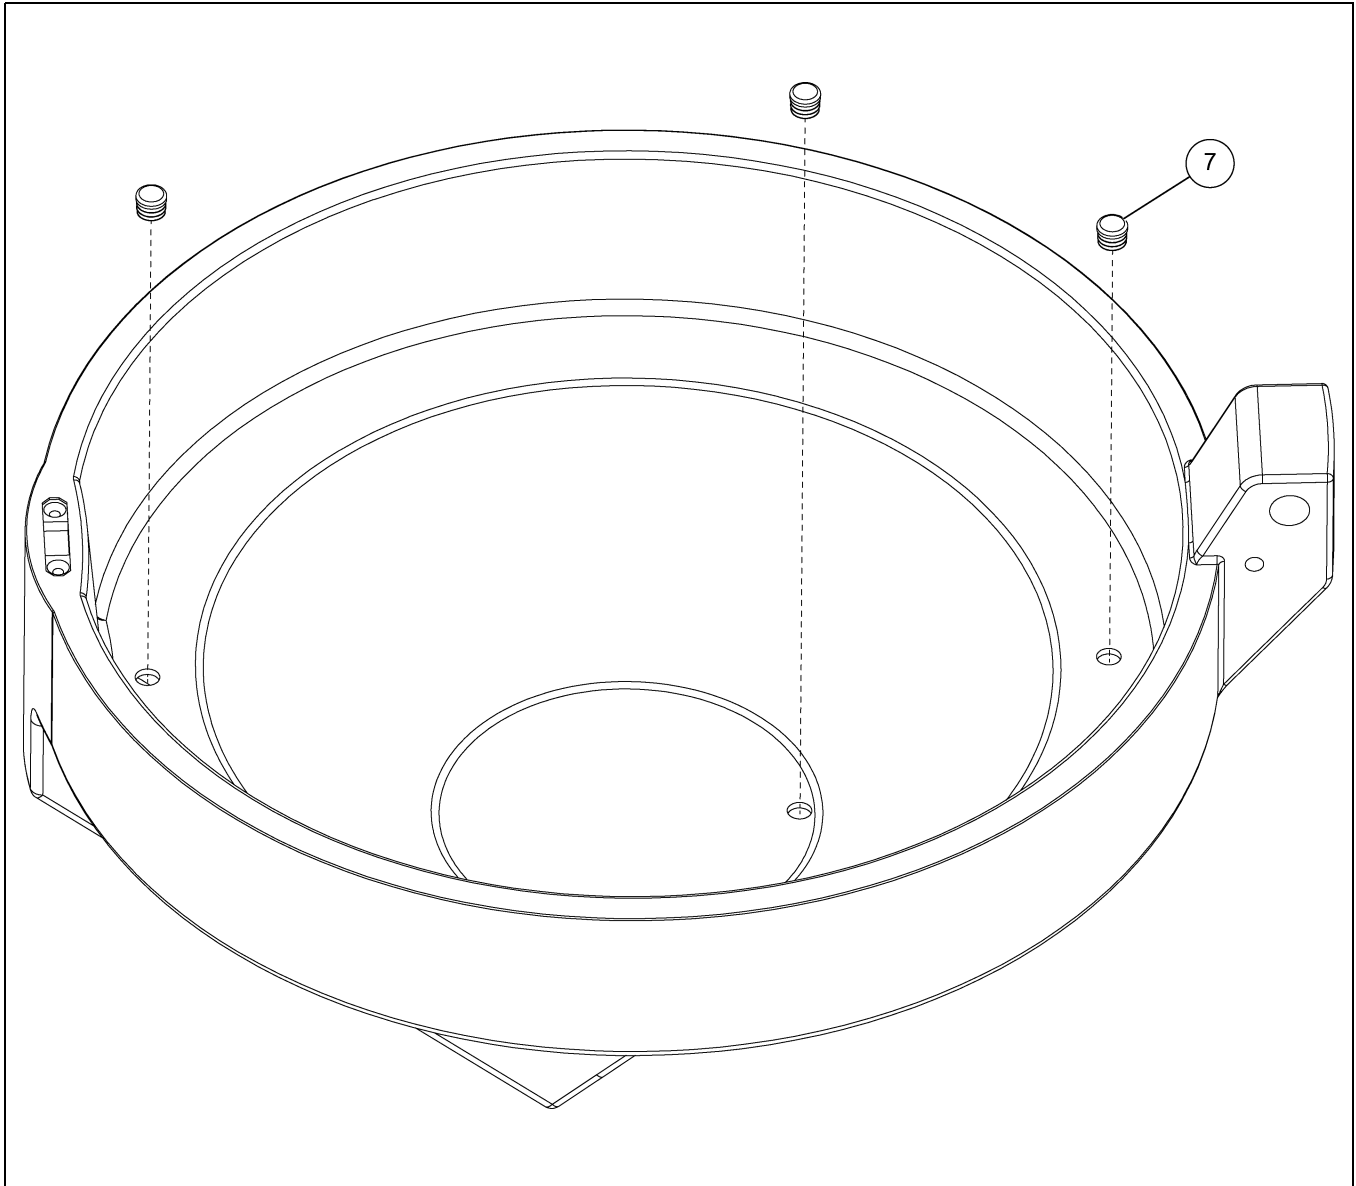

Figure 1
1. Install plugs (7) as shown in Figure 1. Use a rubber mallet if necessary. The plugs (7) are required to keep feed from blowing into the lid cavity.